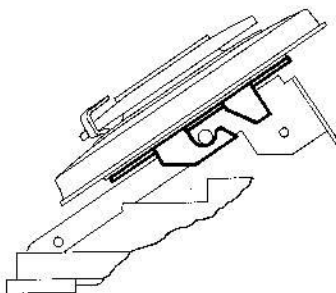

Figure 25. Dial mounting.
Rotate the clamping plate (figure 25) counterclockwise. Remove the number card. Print or stamp the number neatly on the card.
A new dial mounting is employed in Type 80 Transistorized Telephones. Older dials are mounted with two screws. New dial employs a "snap-on" bayonet-lug pin mounting (figure 25).
19.1 **Removal of bayonet mounted dial.** Press down on dial and mounting plate (figure 25). At the same time slide them down the frame until the lugs are disengaged from pins. Tip the bottom of the dial up vertically, exposing dial wiring and transparent dust cover over dial springs.